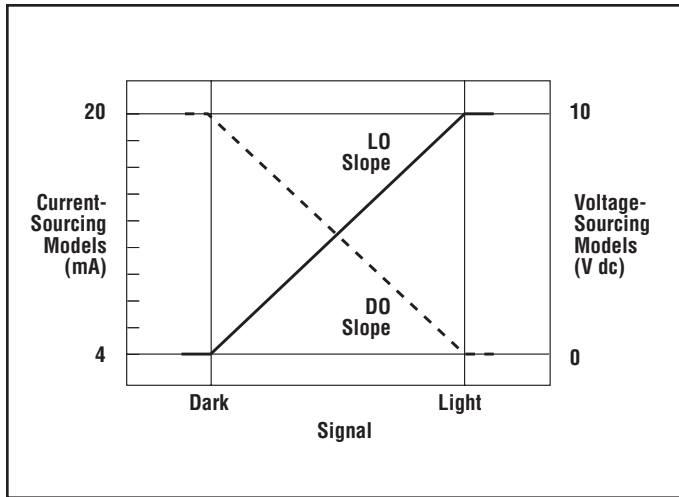

Figure 2. Analog output as a function of target position – two set-points (static or dynamic)
Teaching two set-points (static or dynamic): The sensor sets the first taught condition to the highest output level (either 20 mA or 10V), and the second taught condition to the lowest level (either 4 mA or 0V), and scales between these points. If the first condition taught has more returned light, the sensor will be in Light Operate mode (LO). If the first taught condition is darker, the sensor will be in Dark Operate mode (DO). To change the slope of the analog output (refer to Figure 2), toggle LO/DO in Setup (page 6).